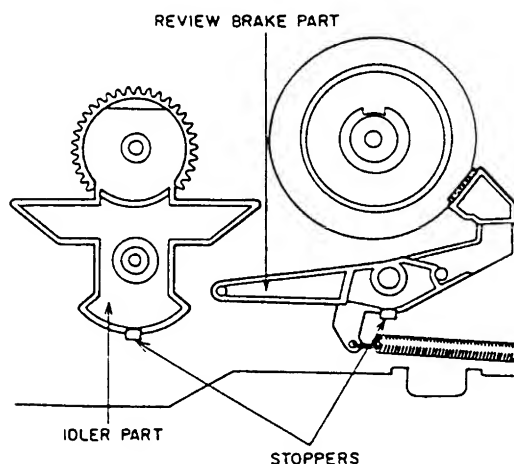

Fig. 3-18
- 2) Release the stopper of the IDLER PART as shown in Fig. 3-18, then remove it.